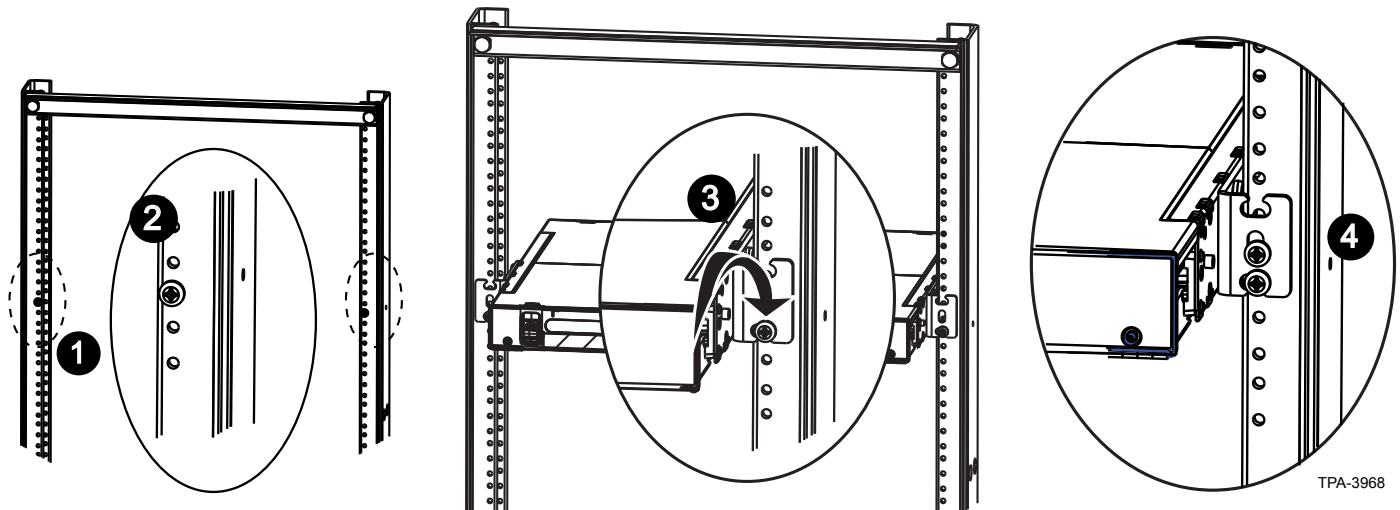

Figure 3
- Step 1:** Identify the rack location where the housing will be mounted (Figure 3).